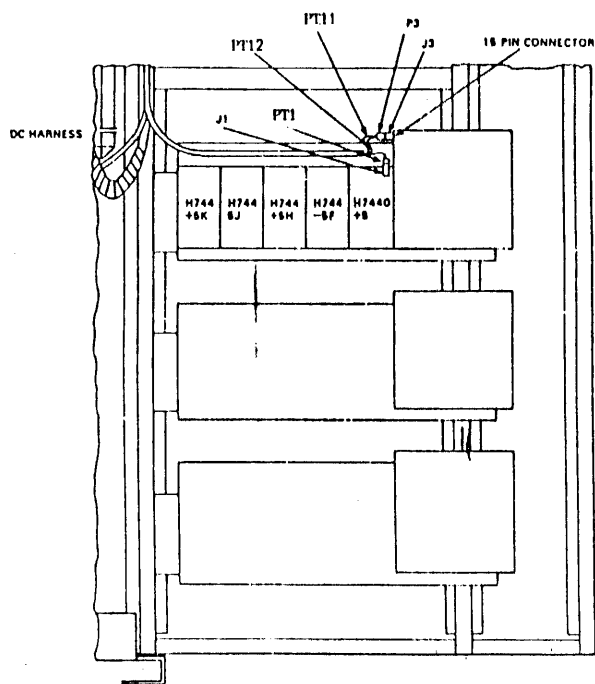

Figure 3-5. H7420 Power Supply
Three H7420 power supplies are located on the I/O Cabinet side wall as shown in Figure 3-1. The H7440 regulator to be added is installed in the upper H7420 power supply location. This additional +5 volt regulator is required to support the NIA20 card cage and is installed as follows (see Figure 3-5):
7. Connect P1 of the 7019273-00 DC power cable to connector J1 of the previously installed H7440 regulator (see Figure 3-5).